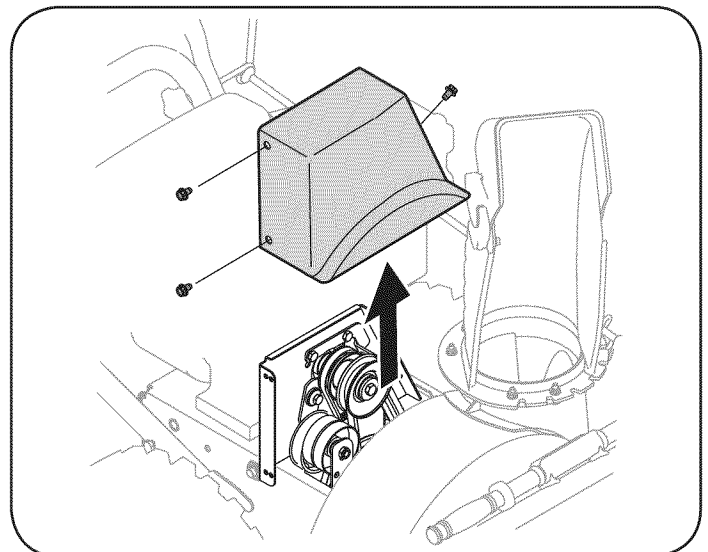

Figure 30
3. Remove the plastic belt cover, located near the engine, by removing the three self-tapping screws that secure it. See Figure 30.